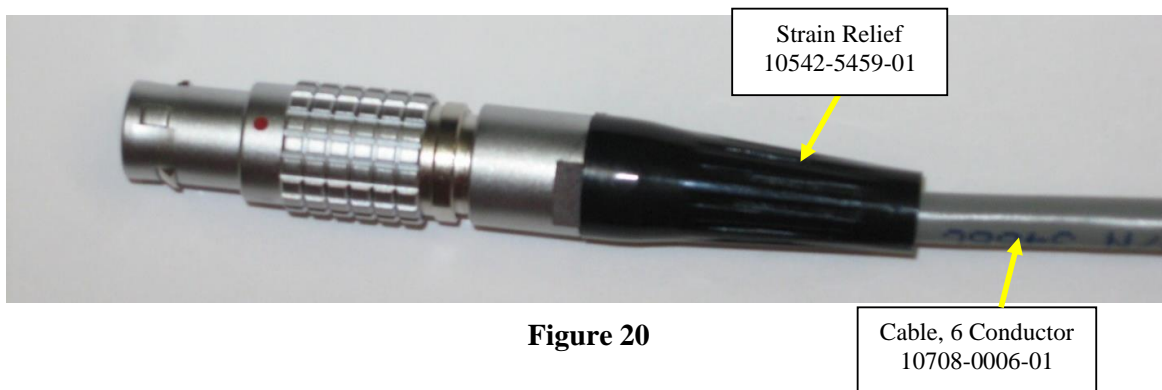

Figure 20
8. Pull the Strain Relief into place at the end of the LEMO Connector. The finished LEMO is shown in Figure 20.